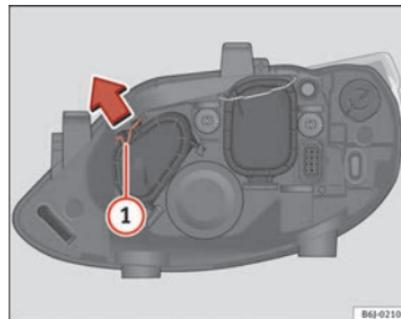

Fig. 149 Side lights
- Move the loop ① in the direction of the arrow and remove the cover ⇒ fig. 149.